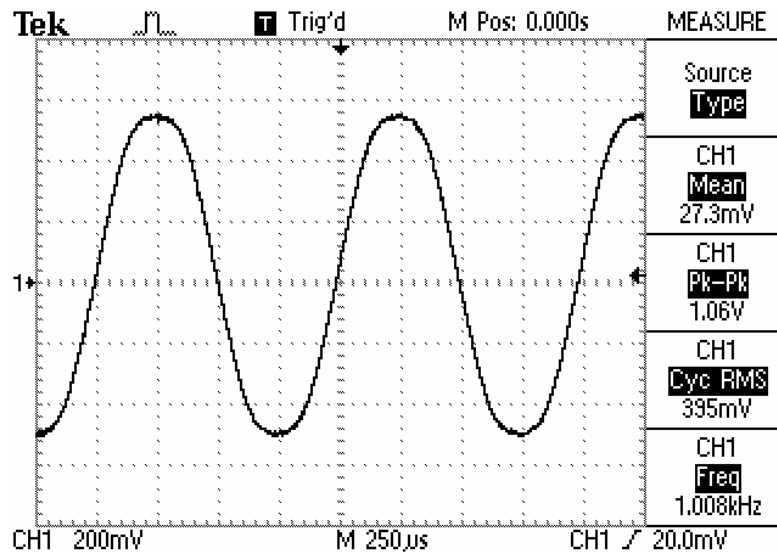

Figure 17: Oscilloscope Display of 1 kHz Sine Wave
26. [] Use the A&D AMPLITUDE knob and FREQ knob to obtain a 1 kHz sine wave at 1V Pk-Pk. Did you need to adjust the A&D FREQ knob? See Figure 17.